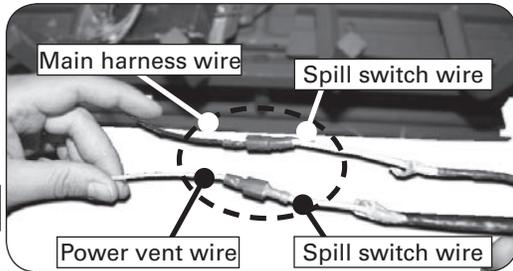

FIGURE 40
9. Units with Power vent: Locate the two spill switches and two power vent wires (not supplied) coming out of the hole in the lower right side of the fireplace. Connect them to the free wires now coming from the main harness and battery box . See **Figure 40 - 42**